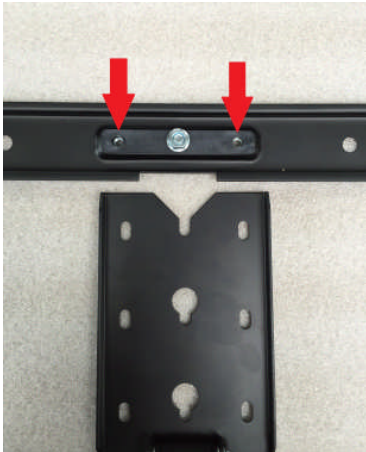

Fig. 4
- 6) Bring the cover shell over the extension arm (Fig 4) up to the wall bracket